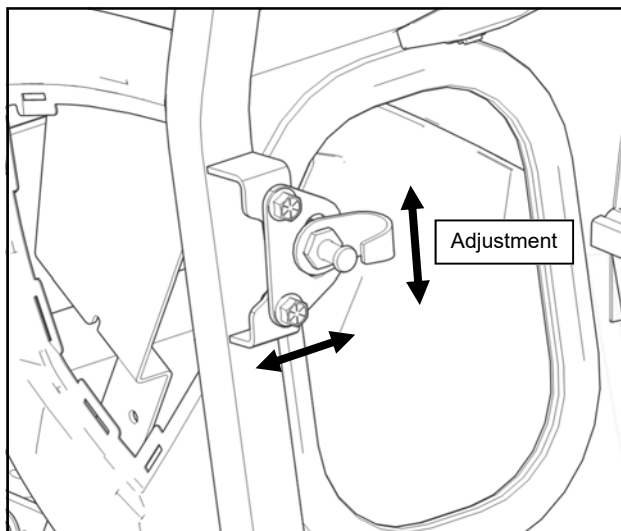

Fig. 27.3 (Striker Pin Adjustment)
- 27.4** Open the door and check for smooth operation of the latch. As noted in step 27.3, the door will likely drop a little bit at the front and the striker pin will need to be adjusted down accordingly. Also make sure the door seal is making contact along the perimeter of the door and the latch clicks twice when closing. If necessary adjust the striker in or out to achieve this (see Figure 27.3).